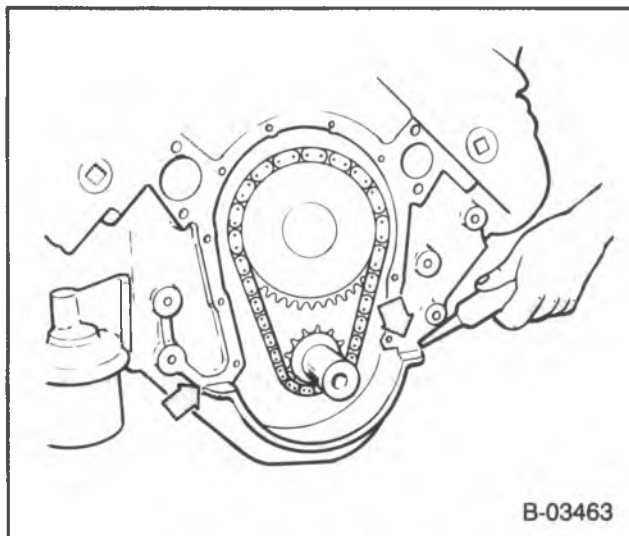

Figure 16 — Applying Sealer
- Apply a 3 mm (1/8-inch) bead of RTV sealant (GM part number 1052366 or equivalent) to the front oil pan to block joint (figure 16).